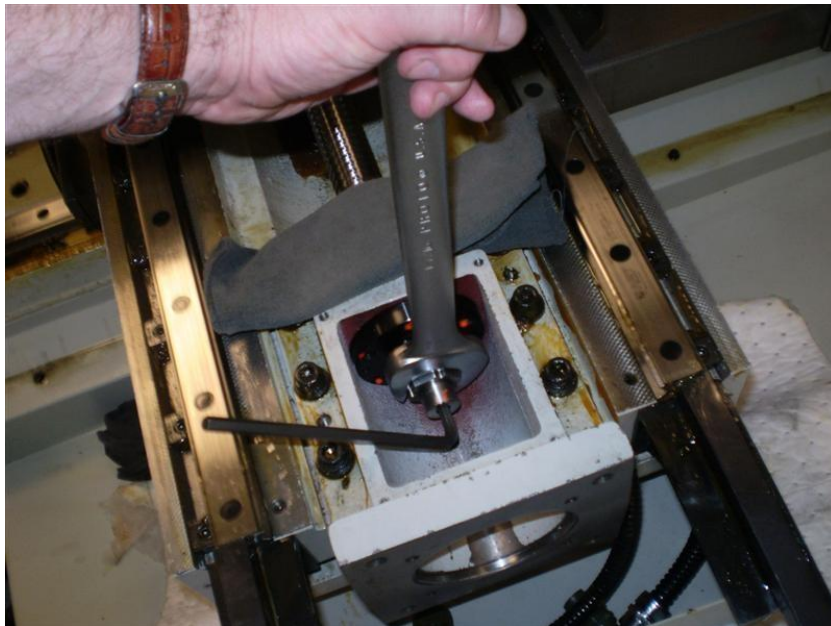

Figure 6.8.1b
- c. Insert a 8mm hex key into the ball screw to prevent rotation and remove the bearing locknut as shown in figure 6.8.1b